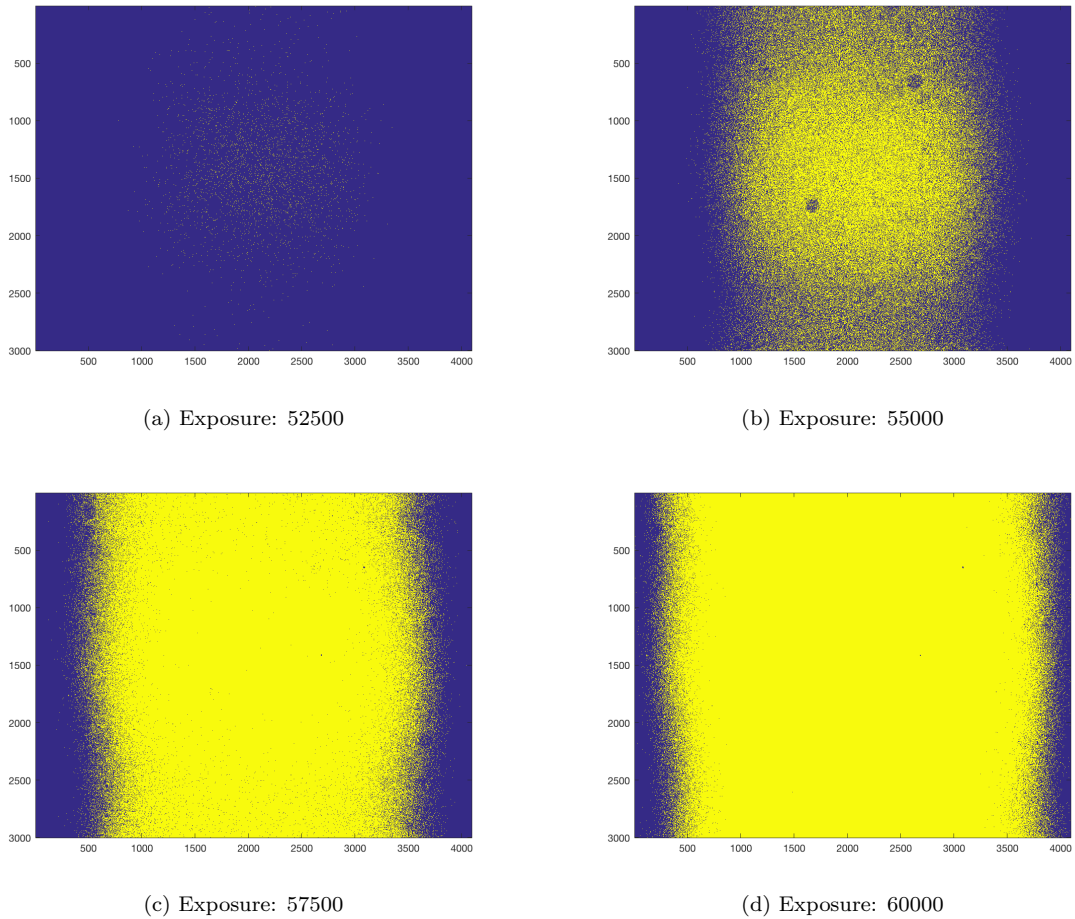

Figure 7: Pixel Saturation for Various Exposure Values.
4. Currently I am investigating ways to eliminate the effect of vignetting on the image noise. The saturation patterns can be seen from Fig. 7.